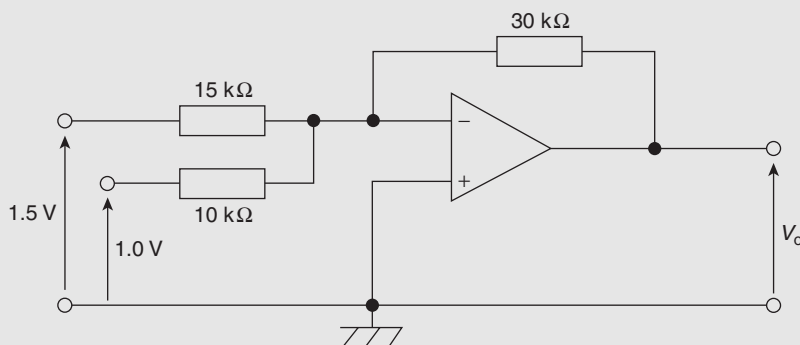

Figure RT5.1
- The power taken by a series inductive circuit when connected to a 100 V, 100 Hz supply is 250 W and the current is 5 A. Calculate (a) the resistance, (b) the impedance, (c) the reactance, (d) the power factor, and (e) the phase angle between voltage and current. (9)
- A coil of resistance $20\ \Omega$ and inductance 200 mH is connected in parallel with a $4\ \mu\text{F}$ capacitor across a 50 V, variable frequency supply. Calculate (a) the resonant frequency, (b) the dynamic resistance, (c) the current at resonance, and (d) the Q-factor at resonance. (10)
- A series circuit comprises a coil of resistance $30\ \Omega$ and inductance 50 mH, and a 2500 pF capacitor. Determine the Q-factor of the circuit at resonance. (4)
- The winding of an electromagnet has an inductance of 110 mH and a resistance of $5.5\ \Omega$. When it is connected to a 110 V, d.c. supply, calculate (a) the steady state value of current flowing in the winding, (b) the time constant of the circuit, (c) the value of the induced e.m.f. after 0.01 s, (d) the time for the current to rise to 75 per cent of its final value, and (e) the value of the current after 0.02 s. (11)
- A single-phase motor takes 30 A at a power factor of 0.65 lagging from a 300 V, 50 Hz supply. Calculate (a) the current taken by a capacitor connected in parallel with the motor to correct the power factor to unity, and (b) the value of the supply current after power factor correction. (7)
- For the summing operational amplifier shown in Figure RT5.1, determine the value of the output voltage, V_0 (3)